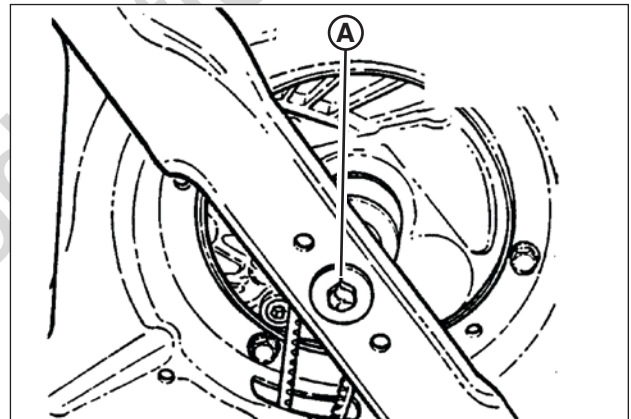

Figure 18: Tightening the blade cap screw
2. Tilt the mower up on its rear wheels for access to the blade cap screw (A, Figure 18). Do not tilt the mower with the spark plug or carburetor down.